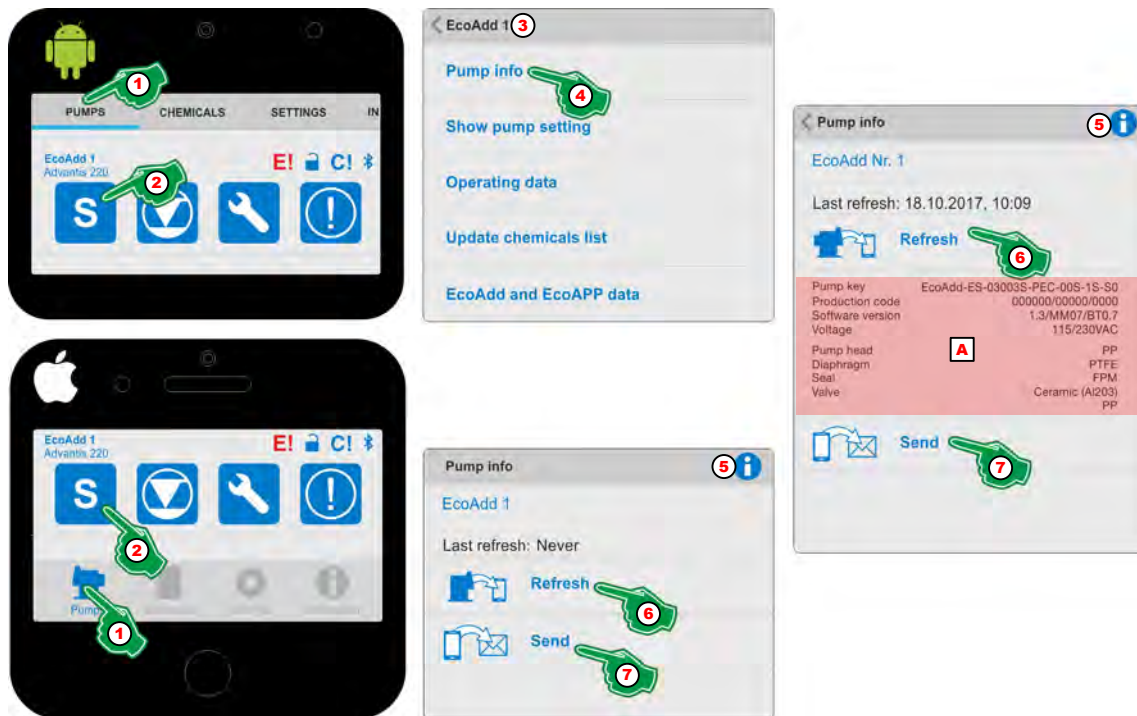

Fig. 22: Pump info
1. Select Menu [Pumps] (Fig. 22 , Pos. 1).
2. Select Symbol 'Dosing mode' (Fig. 22, Pos. 2).
3. To check which pump data is currently displaying , look at the header (Fig. 22, Pos. 3). The selected pump is displayed.
4. [Pump info] (Fig. 22 , Pos. 4).
5. With selection of the [Info] symbol (Fig. 22 , Pos. 5), the following information appears:
6. Select [Update] (Fig. 22 , Pos. 6).
⇒ 'EcoAPP' retrieves the data from the 'EcoAdd' metering pump and displays this under 'Last retrieved' (Fig. 22, Pos. A).
7. Select [Send] (Fig. 22 , Pos. 7).